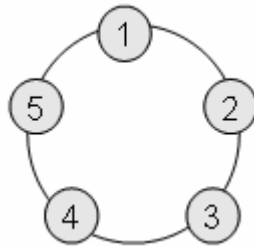

Figure 26 – Link-Seal Tightening Sequence
2. Use a 3/8” drive inch-pound torque wrench (with a 6” long 5/32” ball-point hex-bit socket) to tighten in even increments all LINK-SEAL SCREWS in the sequence shown in Figure 26. Starting point is not critical. Final torque should be 20 in-lb. DO NOT tighten more than four turns at a time.